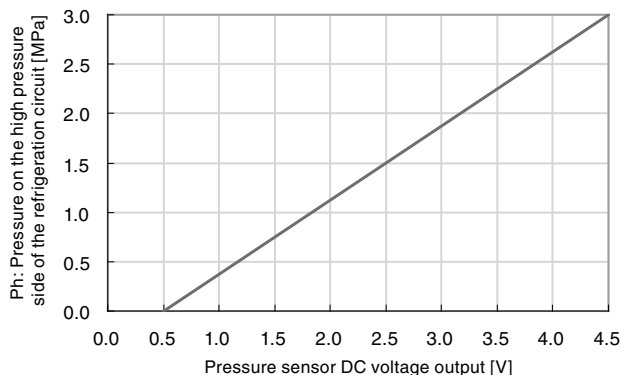

Fig. 4-16 Refrigerant circuit pressure sensor (for high pressure) analogue output
- (1) Check the “Ph: Refrigerant circuit pressure on the high pressure side” value in the “Check Monitor Menu”.
- (2) Check voltage by contacting the probe of the tester directly to the connector external surface with the “CN4” connector of the main board being inserted.
- (3) Contact the positive probe to the pin number 11 and contact the negative probe to the pin number 10 of the “CN4” connector.
- (4) Check that the voltage between the pin number 11 and the pin number 10 is in the same relationship shown in Fig. 4-16. (Accuracy: $\pm 5\%$)
- (5) If the voltage is in the same relationship as the graph shows, it means that the main board is operating correctly.